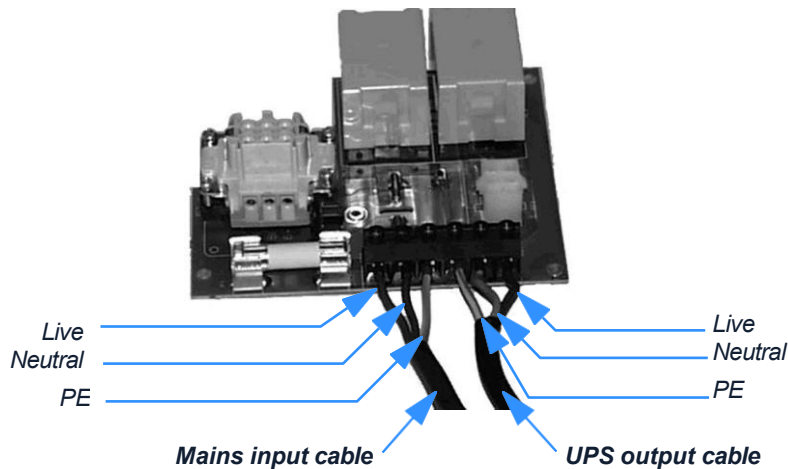
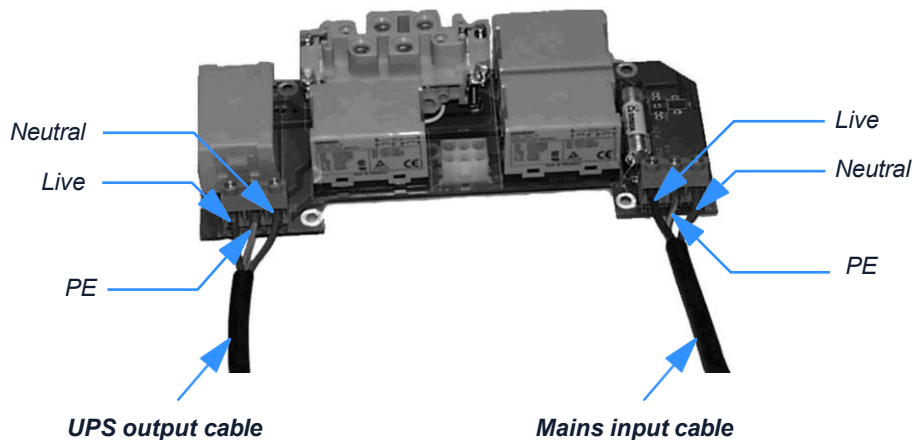

Figure 7.3 Maintenance bypass connector (MINIPowerPLUS 5000)
Figure 7.4 Maintenance bypass connector (MINIPowerPLUS 10000)
5. Feed the input/output power cables removed from the standard connector (above) through the cable glands in the new connector's cover – observe the connection details in Figure 7.3 or Figure 7.4 to determine the correct orientation.
6. Connect the input and output cables to the replacement Maintenance Bypass Connector as shown in Figure 7.3 or Figure 7.4. – take care to ensure the cables are connected to the correct terminal blocks.